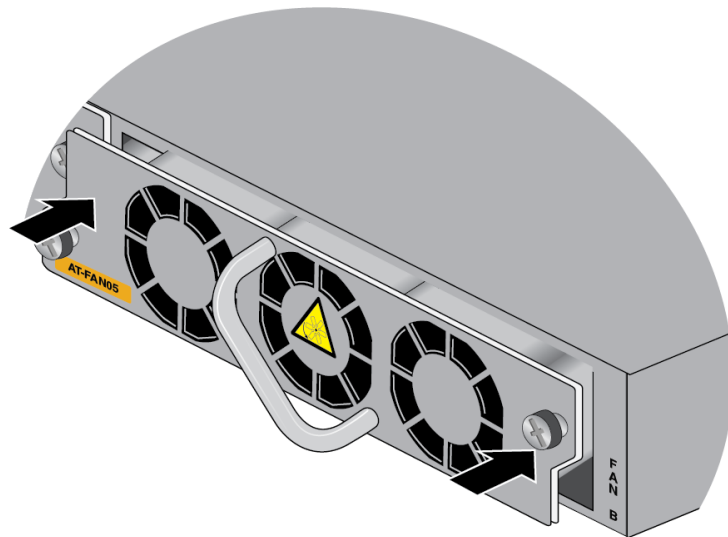

Figure 156. Seating the FAN05 Module on the Internal Connector
3. When you feel the module make contact with the internal connector, gently press on both sides to seat the module on the connector. Refer to Figure 156.